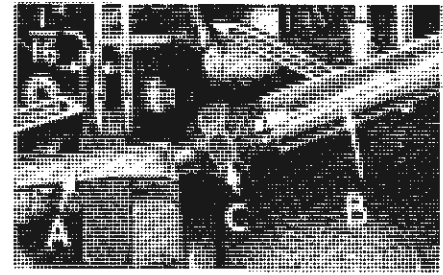

Fig. 6
At this point, insert lower looper (A, Fig. 6) into bar (B). With the lower looper at the left end of its stroke, set looper point  $1/16$  inch from center of left needle (Fig. 6), using looper gauge No. 21225-1/16. Do not have lower looper deflecting needle. Tighten nut (C).